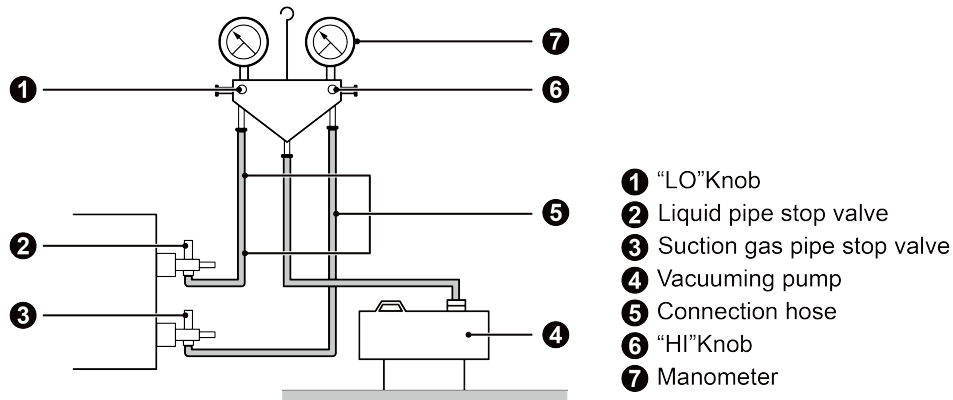

Fig.4.5.1
- (1) Outdoor unit has been charged with refrigerant before delivery. Field-installed connection pipe needs to be charged with additional refrigerant.
- (2) Confirm whether outdoor liquid and gas valves are closed.
- (3) Use vacuum pump to withdraw the air inside indoor unit and connection pipe from the outdoor valve, as shown in Fig.4.5.1 below.
- (4) Do not perform pump down work when there is a gas leak. The intake of air or other gases causes abnormally high pressure in the refrigeration cycle, which may cause explosion or injury.
- (5) When pumping down the refrigerant, stop the compressor before disconnecting the refrigerant pipes. The compressor may burst and cause injury if any foreign substance, such as air, enters the system.